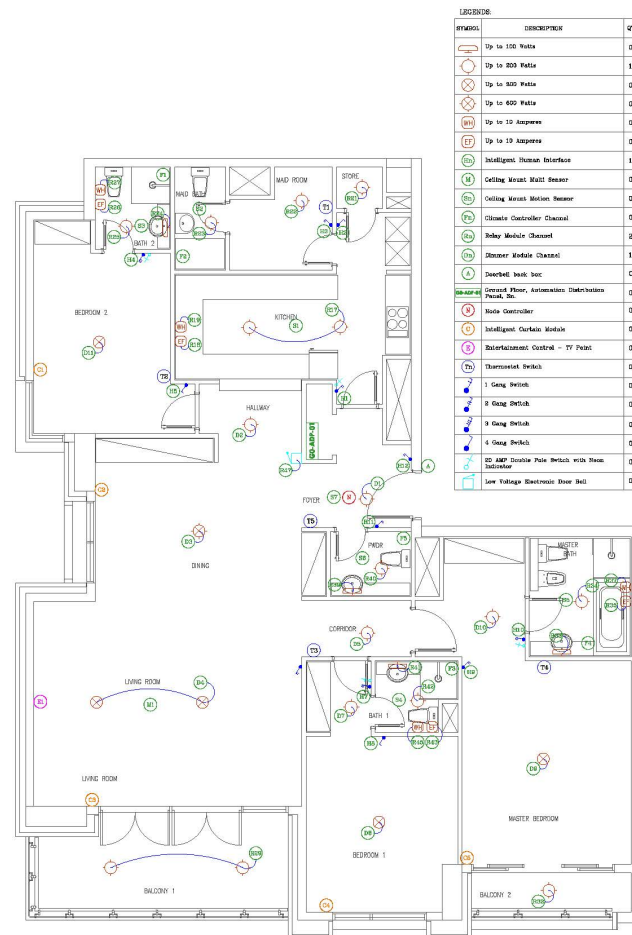
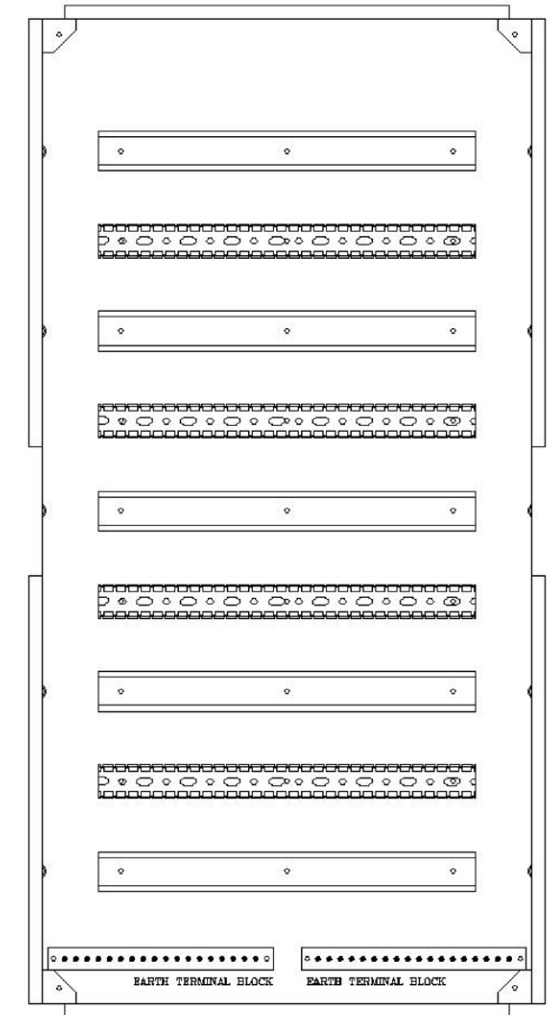
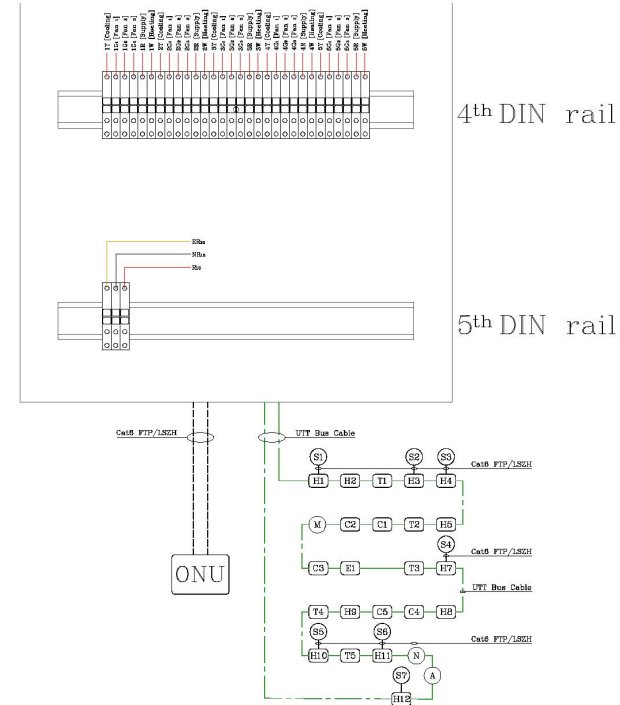

Figure 1.1.2: Apartment's Smart Home Basic System Layout
Figure 1.1.4: 5 DIN rail Type ADP
Figure 1.1.7: 4th and 5th Din rail Schematic Diagram
- It's the responsibility of consultant/contractor of the project to submit the drawings of the smart building automation system layout, bus cable layout and the schematic diagram for each apartment type as shown in Figure 1.1.2, 1.1.3 & Figure 1.1.4 respectively or Figure 1.2.1, 1.2.2 & 1.2.3 for Smart Home Basic System. The application for building approval should be submitted along with the drawings. Refer to Annex 2.1 for application form.
- 1 No. 25 mm conduit should be provided between the ADP and the ONU. It should enter the ADP and the ONU from the bottom center portion only as shown in Figure 1.1.7.
- All the wires should be labeled and terminated at the ADP according to the approved drawings as shown in Figures 1.1.2, 1.1.3, 1.1.6 & 1.1.7. The labeling should be as follows:
- A dedicated 220V surge protected breaker should be connected to the power supply of the gateway located at the last rail of the ADP as shown in Figure 1.1.7.
- A smart home keypad provision should be provided at the entry of each room, bathroom, kitchen & corridor inside the home as shown in Figure 1.1.2.
- The dimension of the keypad's faceplate is 86 x 86 mm (HW).
- The bus cable, supplied by UTT, should go out from the bottom center portion of the ADP in order to connect the back boxes of the keypads, thermostats, curtains, multi-sensors, and the entertainment (E) outlet. The cable should come back to the ADP after passing by the last back box in order to close the loop.
- The looping is topology free (daisy chain, branch, star, etc.) If the total amount of cable used within a bus run is not more the 300m otherwise Daisy chain is highly recommended as shown in Figure 1.1.7.
- The location of each thermostat & its labeling should be indicated on the smart home system layout, bus cable layout and the schematic diagram as in Figures 1.1.2, 1.1.3, 1.1.7 & 1.1.12 respectively.
- The location of each curtain & its labeling should be indicated on the smart home system layout, bus cable layout and the schematic diagram as in Figures 1.1.2, 1.1.3& 1.1.7 respectively.
be indicated on the smart home system layout, bus cable layout and the schematic diagram as in Figures 1.1.2, 1.1.3& 1.1.7 respectively. According to the number of Multi-sensors to be installed, it should be labeled as M1, M2 and M3...etc...
- The location of the E outlet & its label should be indicated on the smart home system layout, bus cable layout and the schematic diagram as in Figures 1.1.2, 1.1.3& 1.1.7 respectively. According to the number of Entertainment outlets to be installed, it should be labeled as E1, E2 and E3... etc...
1.1.10 AUDIO (A) DISTRIBUTION